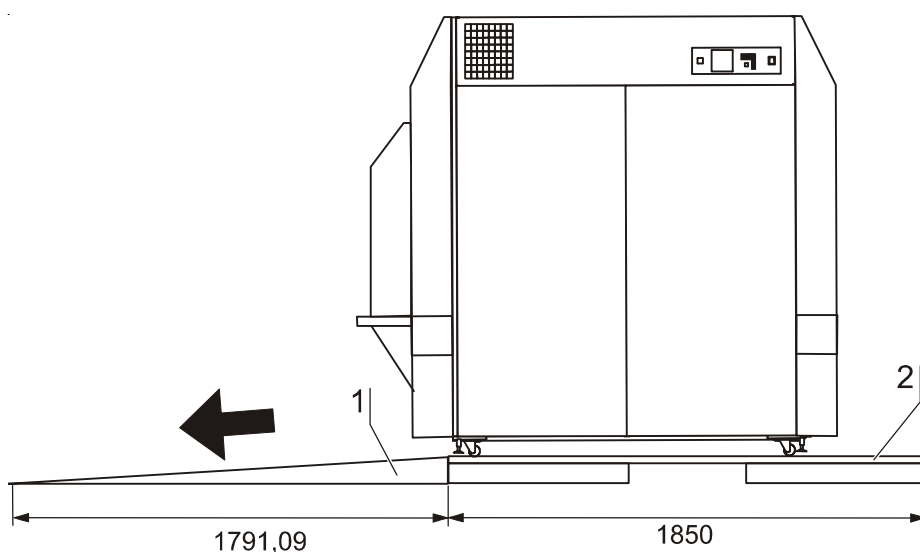

Fig. 3,
2. **Fig. 3:** Align the wedge-shaped end panel [1] flush with the pallet [2].